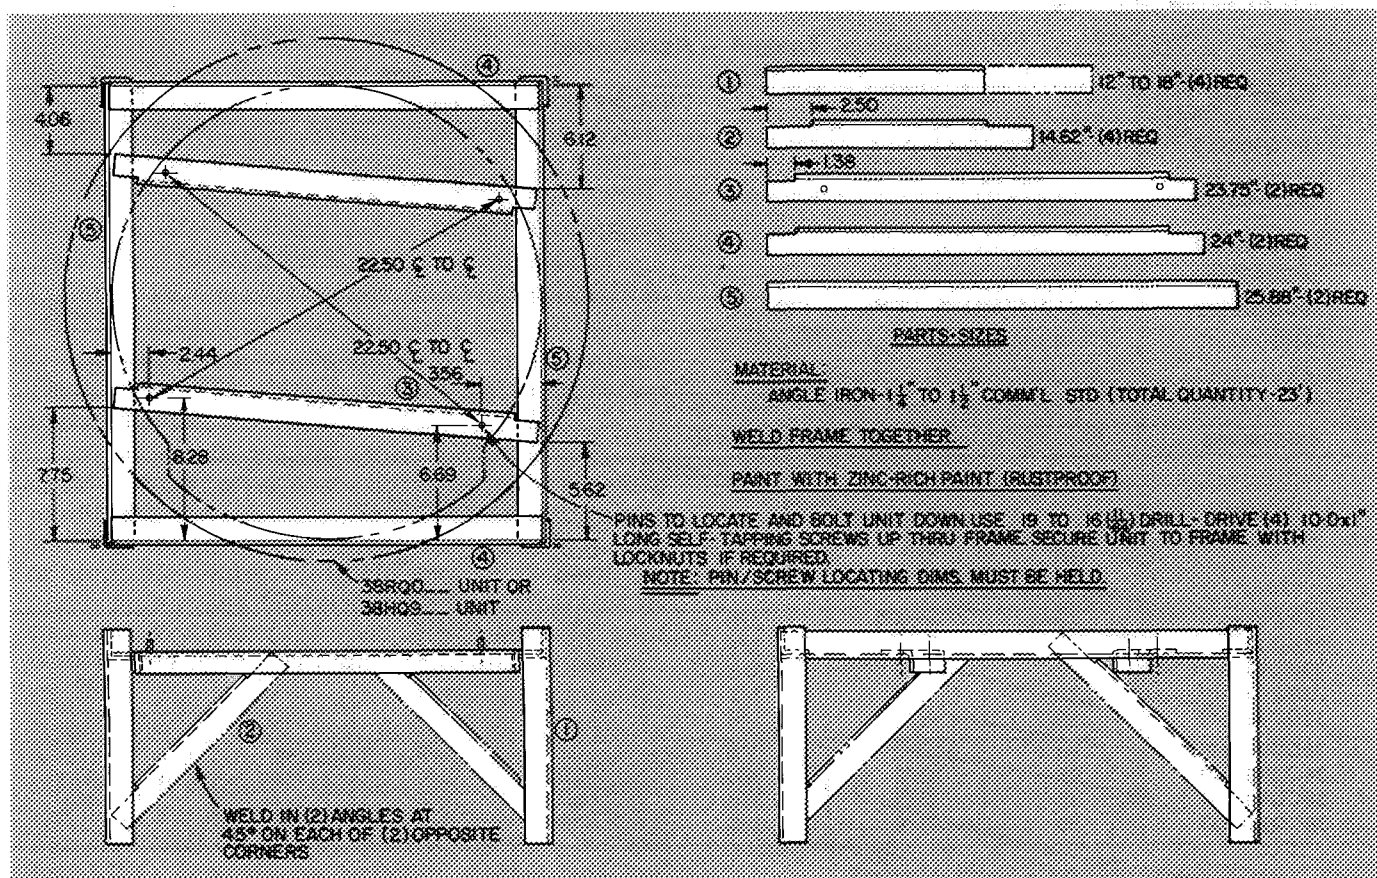

Fig. 5 – Outdoor Fan Coil Mounting Frame
- Construct round, 23-in. diameter pad a minimum of 6 in. above grade to provide clearance under holes for drainage and ice build-up. In areas where prolonged subfreezing temperatures or heavy snows occur: increase clearance from 12 to 18 in. by constructing an angle-iron frame to support unit 12 to 18 in. off concrete base. Cross angle of frame must not obstruct coil drainage holes. See Fig. 5 for recommended frame construction. Extend a 12-in. gravel apron around pad for condensate and defrost water drainage field.